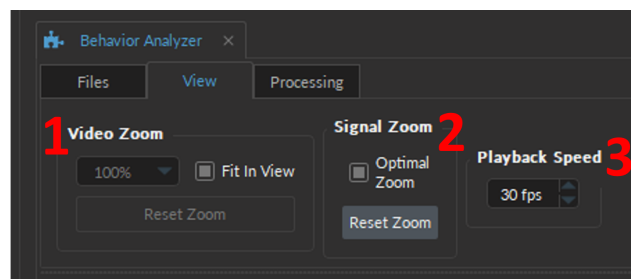

Figure 11.5: Behavior Analyzer, View tab
The **View** tab (Fig. 11.5) sets the visualization parameters for the **Video View** and the **Signal View**. The following parameters are included within the tab:
1. The **Video Zoom** (Fig. 11.5, 1) sets the image magnification factor.
2. The **Signal Zoom** (Fig. 11.5, 2)
3. The **Playback Speed** (Fig. 11.5, 3) sets the frame rate (in FPS) that the video and signal data will be run once user selected **Play** from the **Video View**.